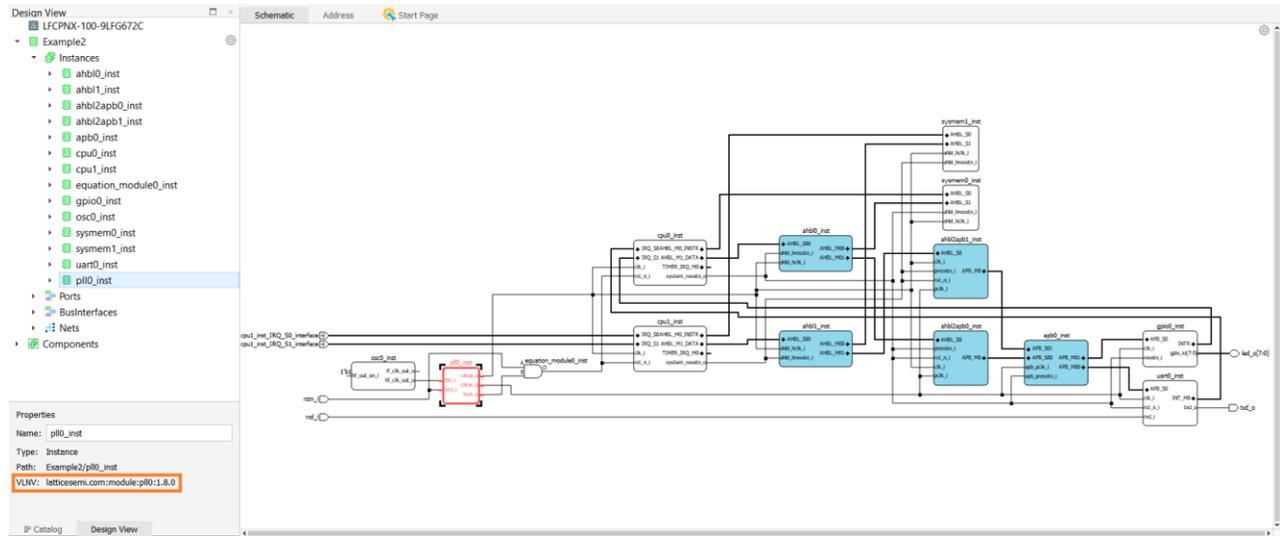

Figure 2.164. Check IP Name in Design View
- Click on an IP instance in **Schematic view**. The **Design View** shows the corresponding information of this IP. Check VLNV for this IP name (Figure 2.164). Go to **IP Catalog** and click on before this IP to show the **IP Information**. In the **Device Supported** area, all the devices this IP supports are listed (Figure 2.165). Make sure